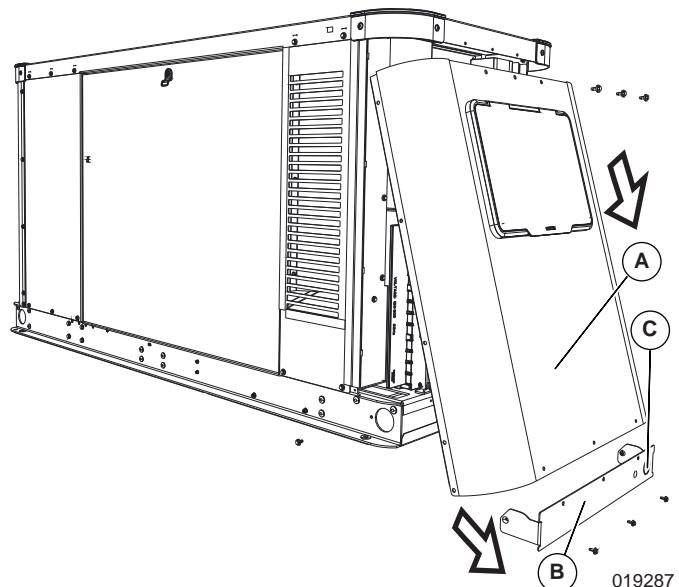

Figure 5-6. Remove Rear Panel and Stub-Up Cover
1. See Figure 5-6. Remove the 16 screws securing the right side panel (A) to the rest of the enclosure. Corner caps do not need to be removed.
NOTE: See Figure 5-6. Remove knockout plug and route accessory wiring to customer supplied weather-proof junction box. Verify wires do not contact moving or vibrating engine parts, as abraded wires can result in electrical problems.